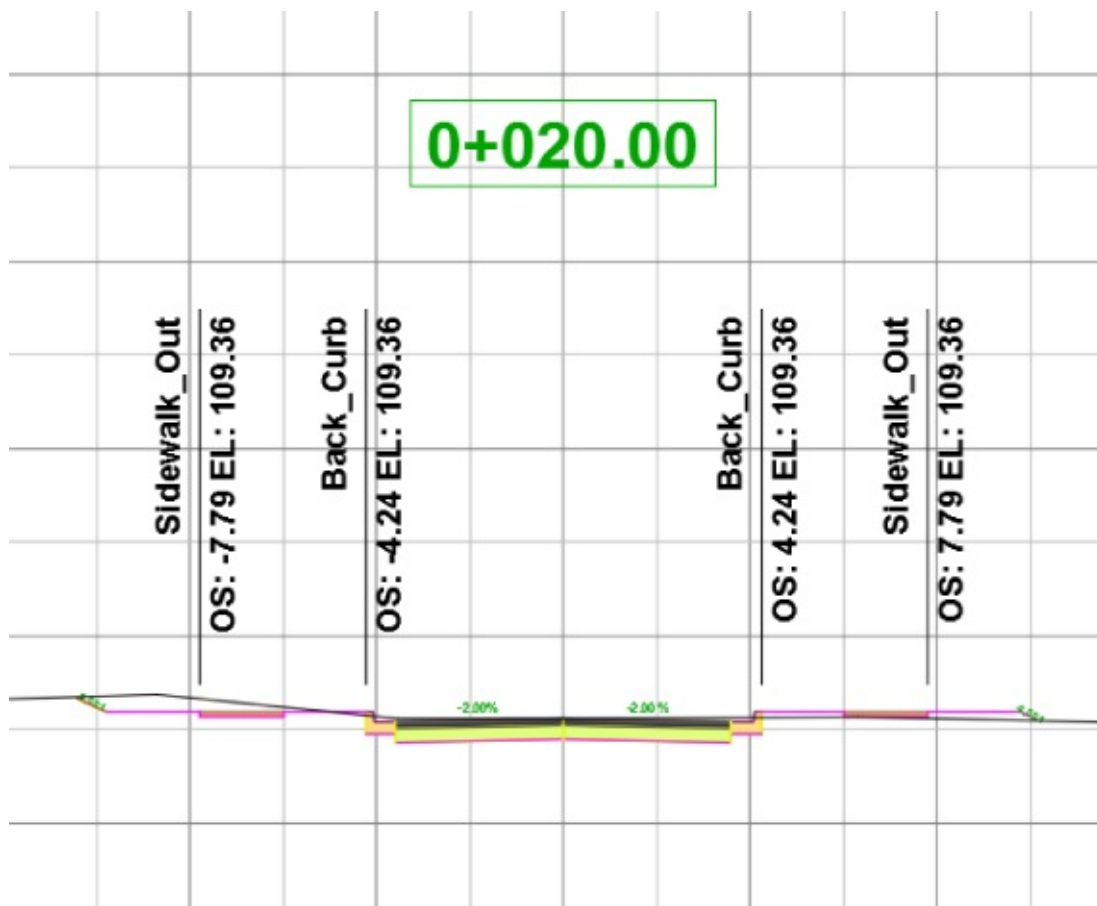

Figure 18.59 Section view using the newly introduced Corridor Points Labels feature
21. In the Section Labels dialog, change the Type to Corridor Points, and from Section Corridor Points Label Style, select the Corridor Points and click the Add button. Click OK to dismiss the dialog box. Now you will not notice the new labels applied to the section view. You can convert the labels back and forth by issuing the same command and picking the desired output. Your converted section view will look like Figure 18.59.